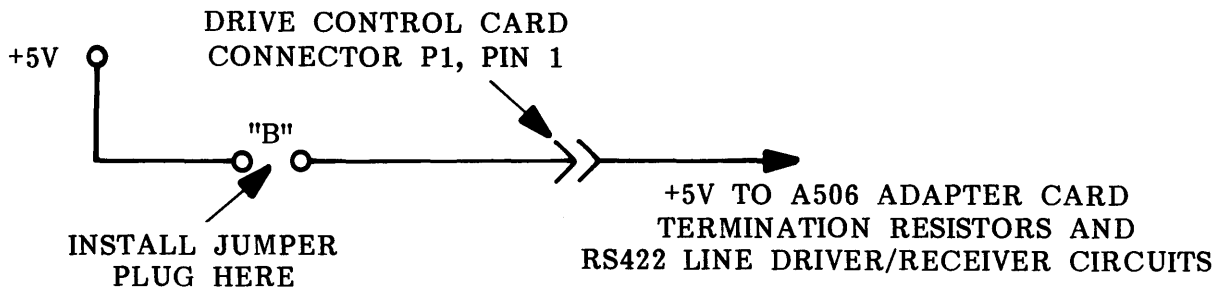

FIGURE 9-8
- 4) Install a jumper plug in location "B" to provide power to the A506 Adapter card over P1, Pin 1. (See Figure 9-8 for schematic of this circuit.)